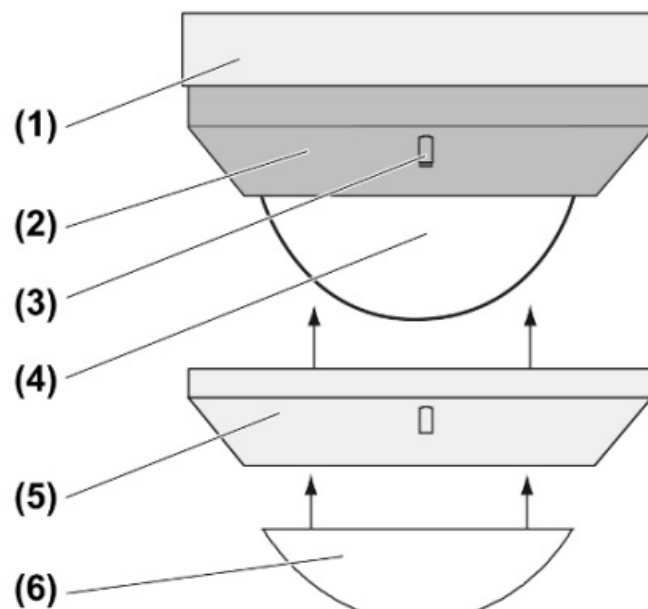

Figure 1
Behind the sensor window (4) are a red and a blue LED (see figure 1) for indicating different states of operation.